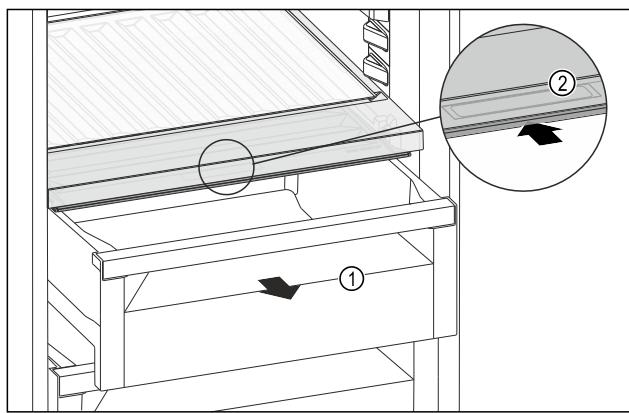

Fig. 96
- Pull out the drawer Fig. 96 (1).
- Grasp the recessed grip Fig. 96 (2) on the compartment lid and push the compartment lid backwards at the same time.